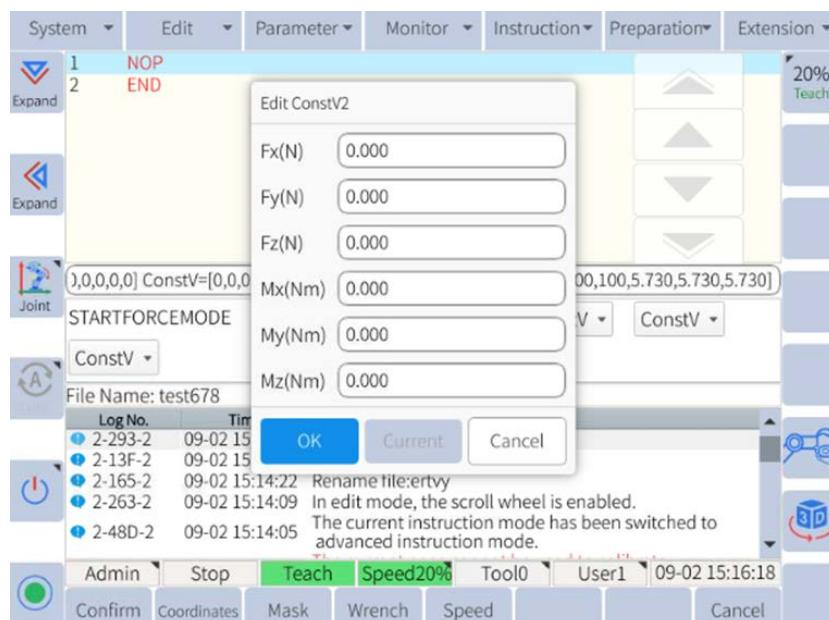

Figure 6-51: Setting the desired force/torque in the direction of the DOFs
- The user can set the desired force/torque in the direction of the DOFs of the force control coordinate system by clicking the **Force** button, as shown in **Figure 6-51**.